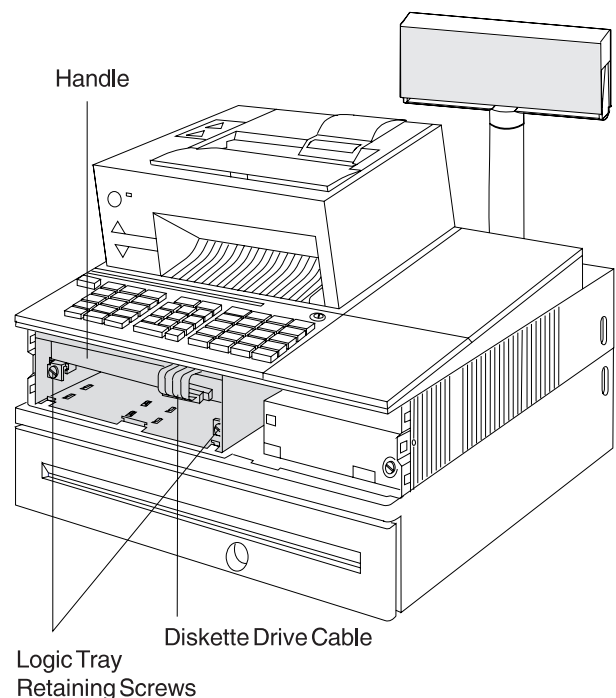

Figure 1-10. Logic Tray Remove and Replace
- 4 Disconnect the diskette drive cable from the connector at the front of the logic tray. See Figure 1-10.